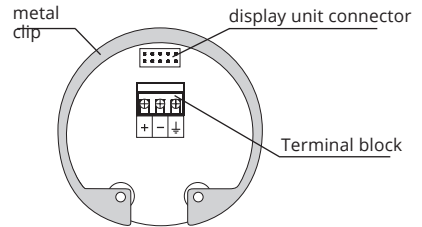

Fig. 17: Inside view of screw terminals of the level meter with current output ULM-70_--_-
5. Connect the cable to the screw terminals according to the diagram in Fig. 17 or 18. Firmly tighten the terminals and the cable outlet.
In the event of strong ambient electromagnetic interference, paralleling of conductors with power distribution, or for distribution at distances over 30 m, we recommend grounding the level meter (see above) and using a shielded cable. Ground the shielding of the cable on the side of the power supply, or the shielding is possible to connect only on inside pin of the level meter marked \ominus see fig. 17 and 19 (the shielding of the cable is always connected in a single location).